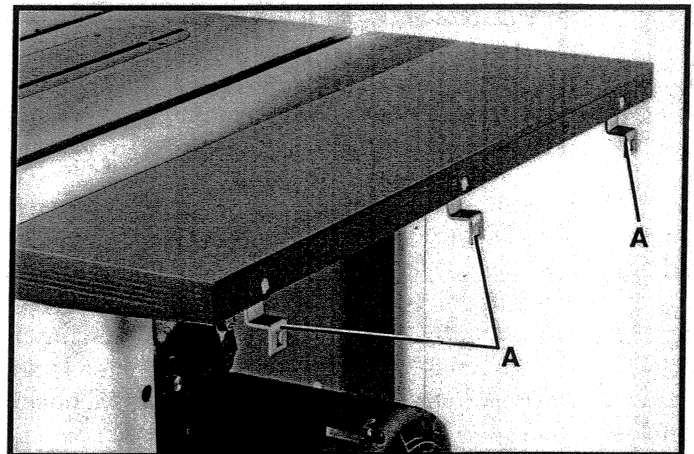

Fig. 17
2. Fig. 17, illustrates the Z-brackets (A) properly assembled to the extension table.